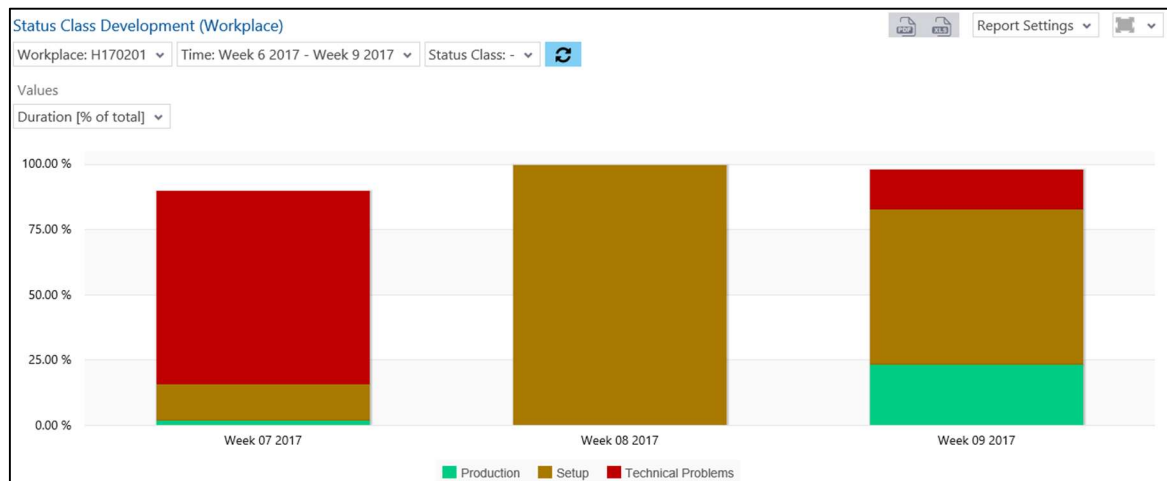

Fig. 53: Operating State Class Development (Workplace) as a column chart
- Operating State Class Development (Workplace) as a column chart (Fig. 53):